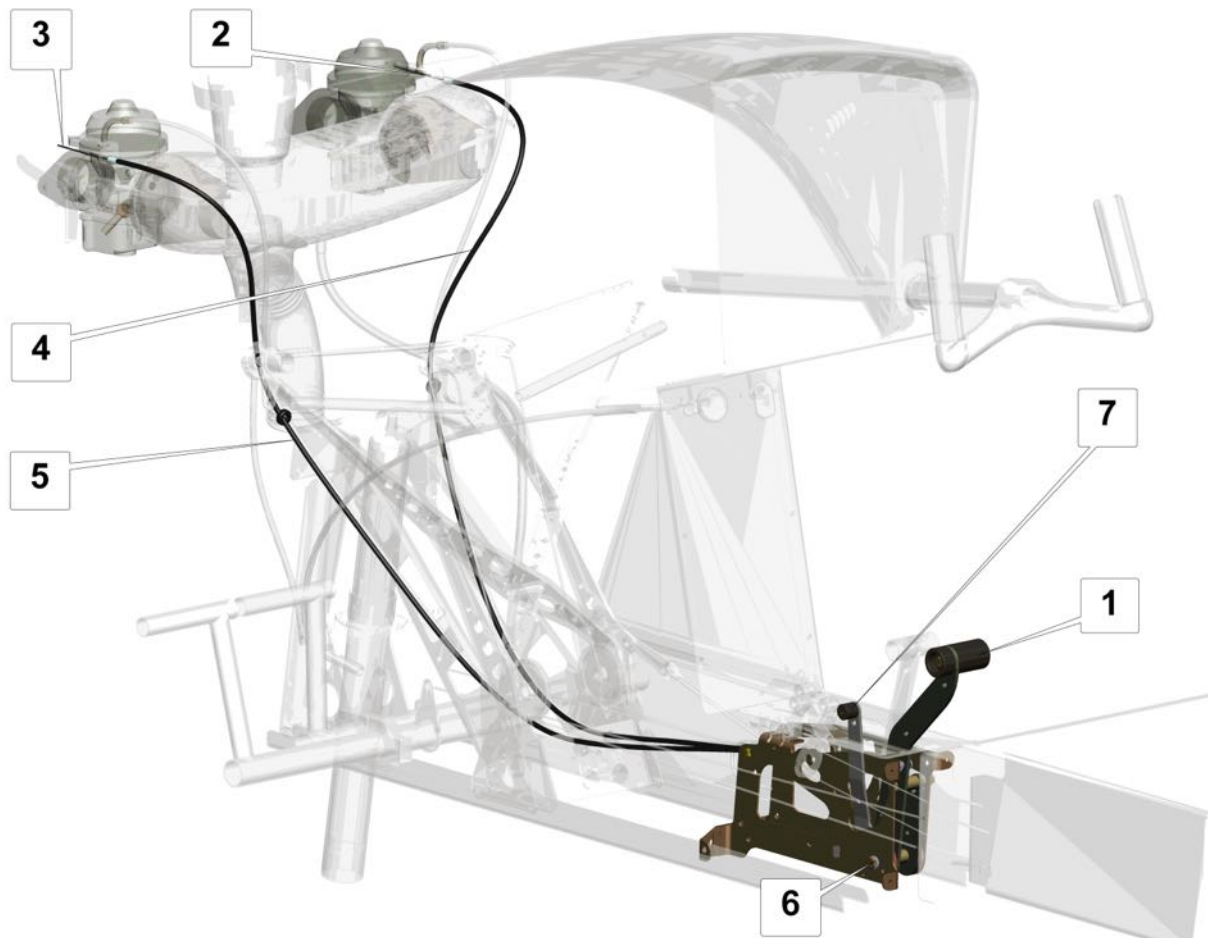

Fig. 9. Engine RPM controls
The engine RPM control (**Fig. 9**) is achieved using the throttle lever (1) connected with the cables to the throttle control arms of the right (2) and left (3) carburetor. The cables are passed through the flexible sheaths – the right (4) and the left (5) one. The throttle lever friction force can be adjusted on the ground by tightening the bolt (6) or in flight – using the friction force adjusting lever (7).